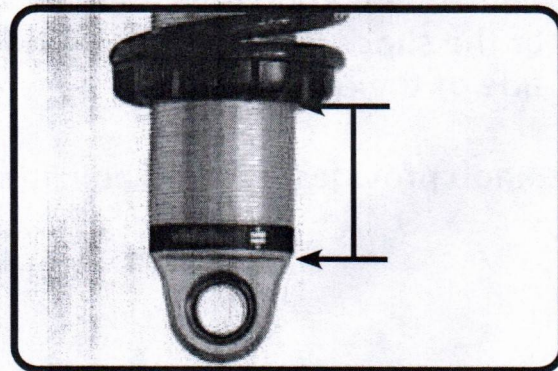

Figure 6
First, using the supplied lower adjuster nut (803-00-199) thread the nut onto the shock from the bottom side as seen in figure 6. Remove the plastic pellet that is in the split of the adjuster nut.
8. Measure the distance from the bottom of the adjustment nut to the flat of the shock body. We recommend recording this measurement for reference (Figure 6).